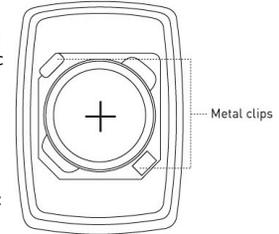

Figure 5
- Place a small flathead screwdriver in the slot between the metal clip (see *Figure 5*) and the battery and twist the screwdriver slightly while holding back one of the black plastic edges holding the battery.
- Insert the replacement battery with the + sign facing out (see *Figure 5*).
**WARNING! The polarity of the battery must be observed, as shown (see *Figure 5*). Improper handling of lithium batteries may result in heat generation, explosion or fire, which may lead to personal injuries. Replace only with the same or equivalent type of battery as recommended by the manufacturer. (see *Specifications*)**